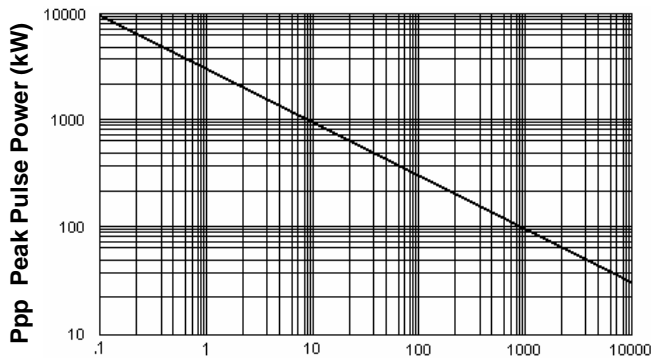

Figure 1
- Peak Pulse Power : 500 Watts (8/20 μs, Figure 1)
- Peak Pulse Current : 24 Amps (8/20 μs, Figure 1)